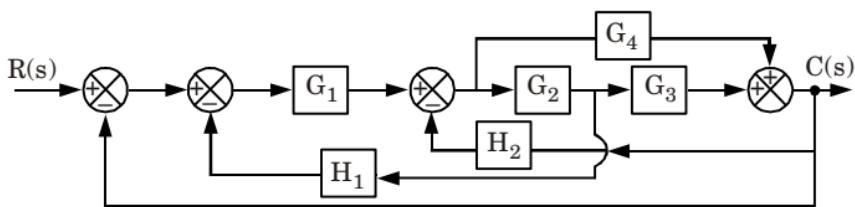

Fig. 1.
1. Using block diagram reduction techniques, find the closed loop transfer function of the system whose block diagram is given in Fig. 1.